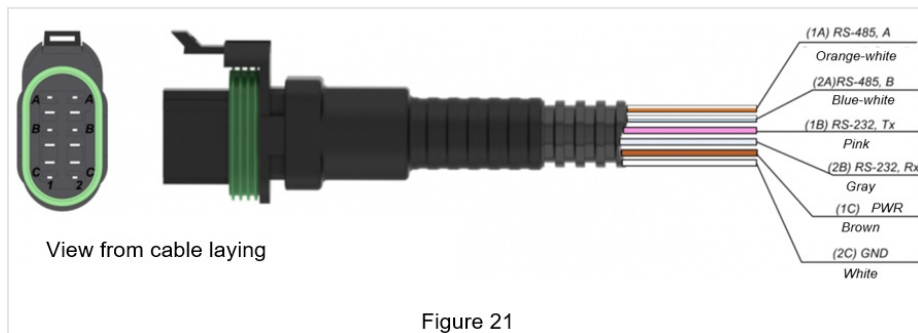

Figure 21
- 7) The purposes of connector pin-outs and cable wire colors are illustrated below (Figure 21).